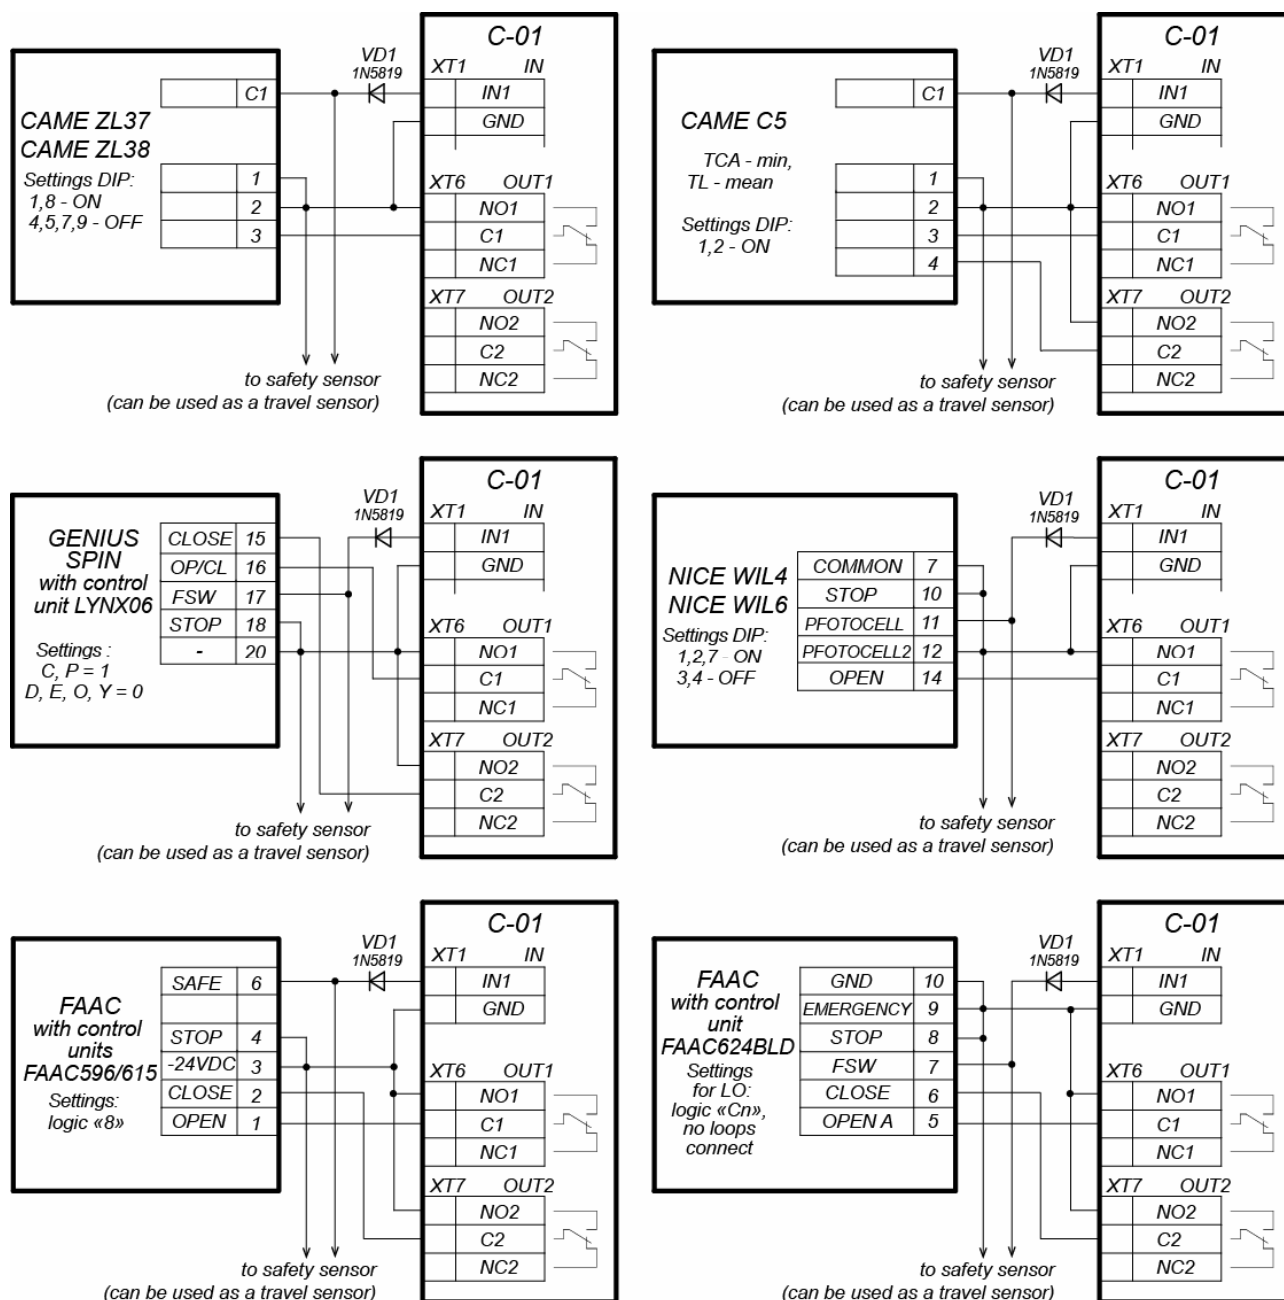

Figure 11. Connection scheme of boom barriers to the controller
2. General connection schemes of OD of vehicle checkpoint re given on Figure 11.